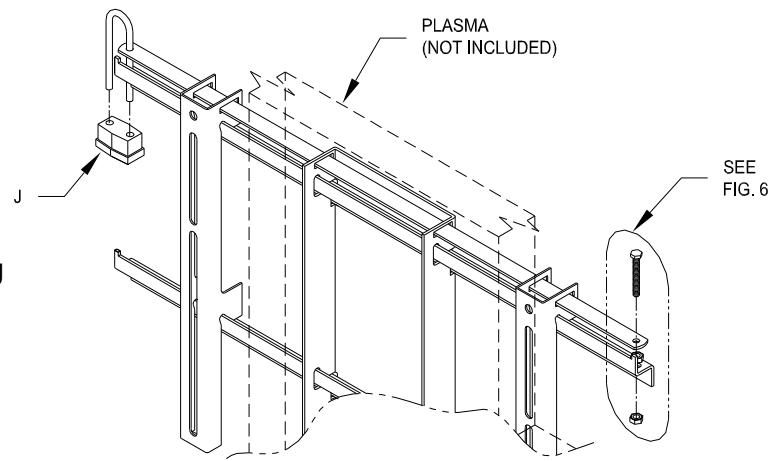

Figure 5
10. Hang the plasma unit on the Zee-Bars making sure the top and bottom notches on each Hanging Bracket are placed over the upper and lower Zee-Bars. See Figure 5.
11. Slide the Security Bar through the slots in the Hanging Brackets, bolt one end to the Zee-Bar then secure the opposite end with the pad lock. See Figure 5 & 6.